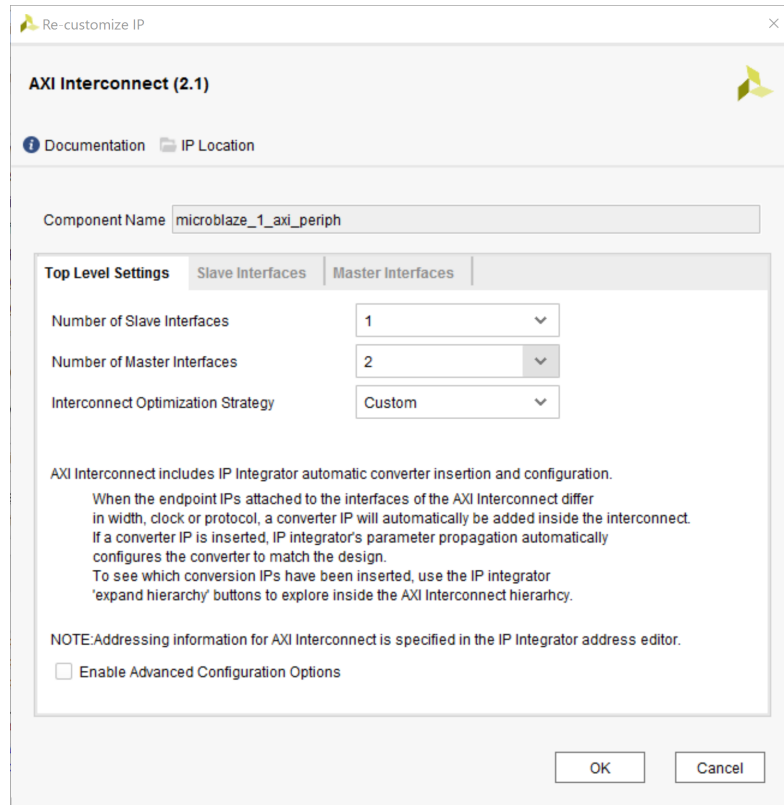

Figure 4-36: Re-customize IP Dialog Box
2. From the drop-down menu, set the **Number of Master Interfaces** field to **2**, as shown in Figure 4-36.